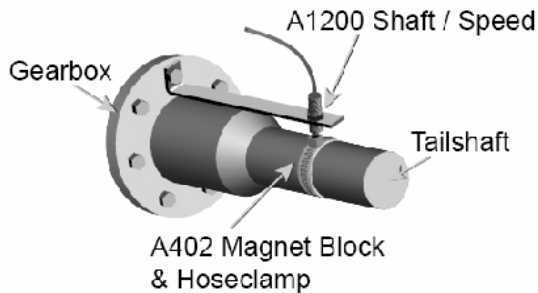

Figure 5-8. Shaft/Speed Sensor installation to a Tailshaft
On a tray mounted Sprayer the Shaft/Speed Sensor kit can be used to read from the vehicle Tailshaft (Figure 5-8).
1. Securely mount the Magnet Block on the flange, between the Transmission Housing and Tailshaft, using the Hoseclamp or other suitable means (Figure 5-8)
Do not attach the Magnet Block (Figure 5-8) directly to the Tailshaft as its position changes, throughout its rotation.